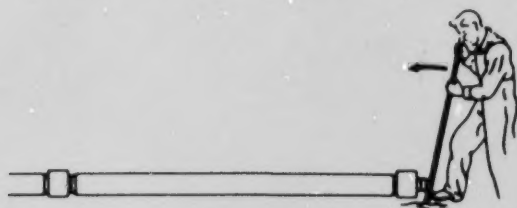

Figure 1-78. Method for Hand Levering
c) In pipe sizes under NPS 8, or 200 mm, and when a mechanical puller is not available, the pipe and fittings can be assembled with a bar and a block of wood as illustrated in Figure 1-78.